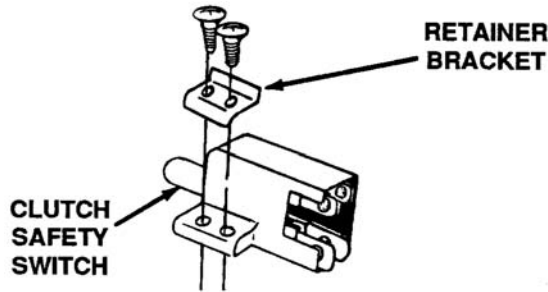

Figure 3-5. Retainer Bracket.
1. The clutch safety switch has a retainer bracket for added support. This will retrofit 1990 production units. See Figure 3-5.